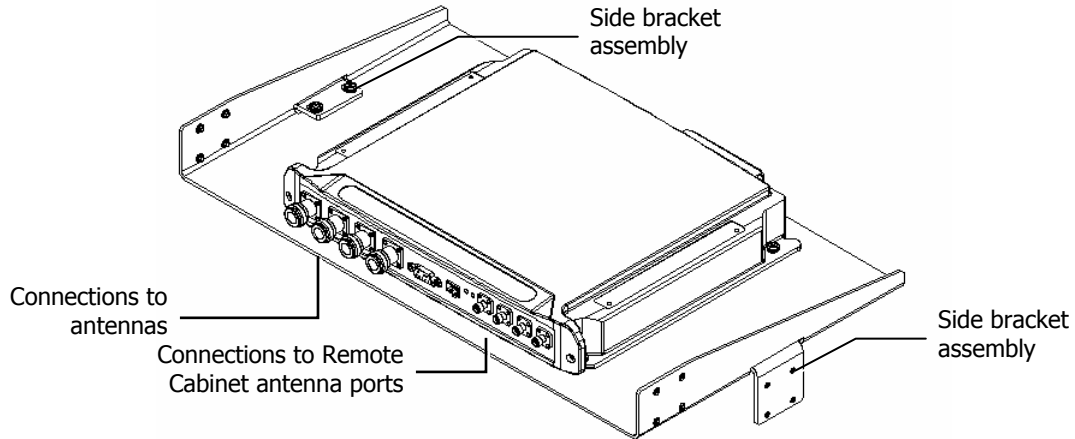

Figure 3-5. MA 850 Rack Installation
1. Assemble two side brackets to the plate sides as illustrated in Figure 3-5.
1. Assemble the side brackets as illustrated in Figure 3-5.